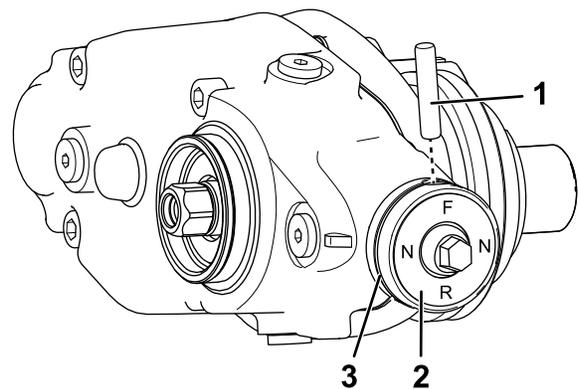

Figure 15
- Remove the O-ring from the clutch knob (Figure 15).
- Remove the shear pin that secures the clutch knob to the actuator shaft (Figure 15).
- Assemble the clutch knob to the actuator shaft with the shear pin (Figure 15).